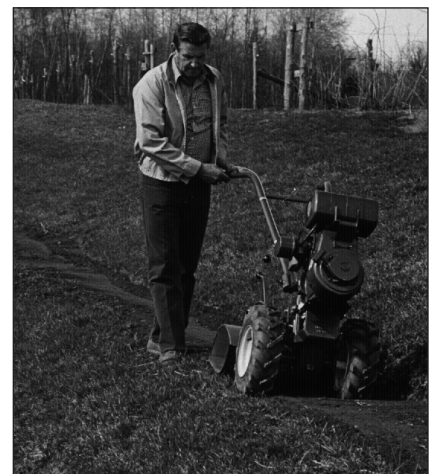

Figure 4-19: Make a terrace in just 4 or 5 passes with the tiller.
- Move the belt into LOW belt range and the Wheel Speed Gear Lever to SLOW position. As in terrace gardening, start at the top of the slope and overlap the first pass by half the width of the tiller. For added stability, keep the uphill wheel in the soft, newly tilled soil. Each succeeding terraced area is started by walking *below* the terrace you are preparing (Figure 4-19).
1. As you move forward into a row of stalks, aim the tiller so that the stalks go between the left wheel and the transmission case (Figure 4-19). Do not use the right wheel because damage could occur to the air cleaner, carburetor or throttle linkage.